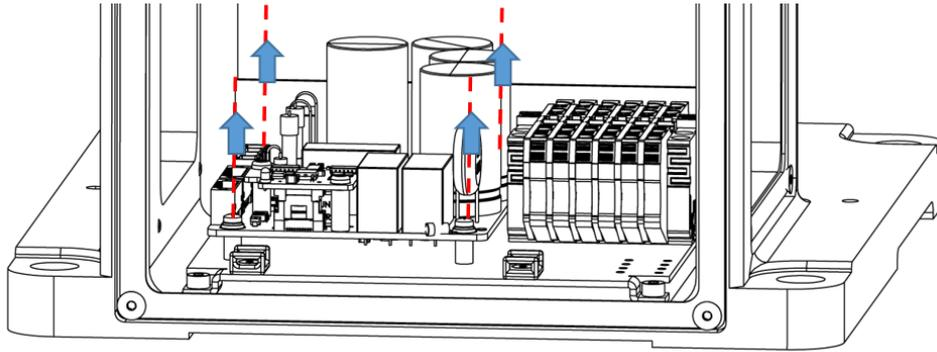

Figure 5-18 Removal of QBUS module
Step 4 Use a cross screwdriver to remove the cross recessed screws from the QBUS module, as shown in Figure 5-18.